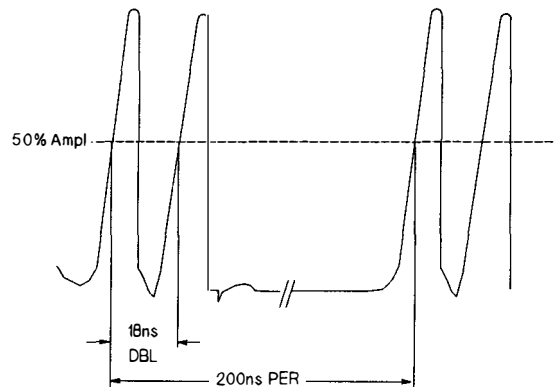

Figure 9-5. Double Pulse Adjustment
23. The typical DELAY (DBL) range characteristic is similar to that shown in Figure 9-5.
33. Press **Autoscale** and adjust A2R13 for 18 ns ± 0.3 ns at 50% of amplitude. See Figure 9-5.
14. On the oscilloscope press **Autoscale** and adjust A2R8 for $10 \text{ ns} \pm 0.2 \text{ ns}$ at 50% of amplitude. See Figure 9-5.